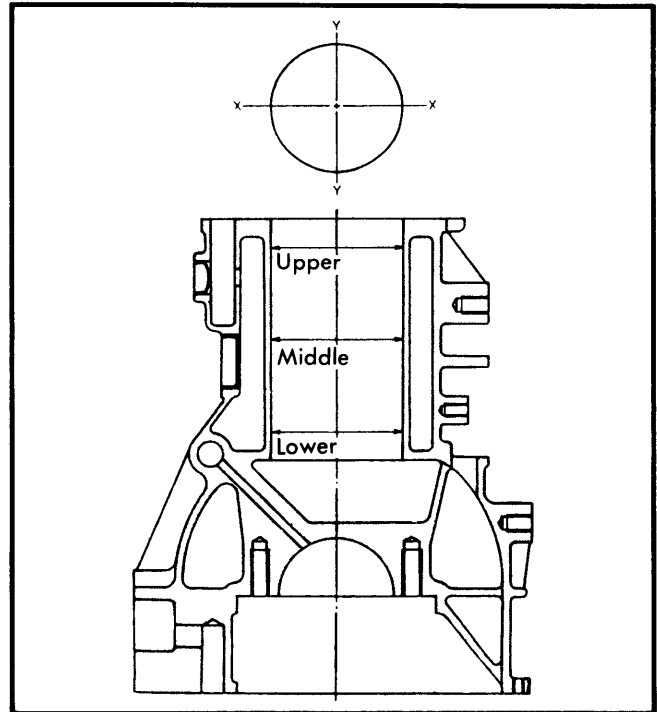

Fig. 8 Points for Measuring Cylinder Bore
1) Cylinder bore can be measured using a cylinder gauge. Measurement must be taken at 3 depths and 2 angles as shown in Fig. 8. Difference between maximum and minimum values is actual wear. If cylinder bore wear is .006 (.15 mm) or more, all cylinders must be honed or rebored. If cylinder is honed or rebored, oversized pistons and rings are available in .010" (.25 mm), .020" (.50 mm), .030" (.75 mm) and .040" (1.00 mm) oversizes.